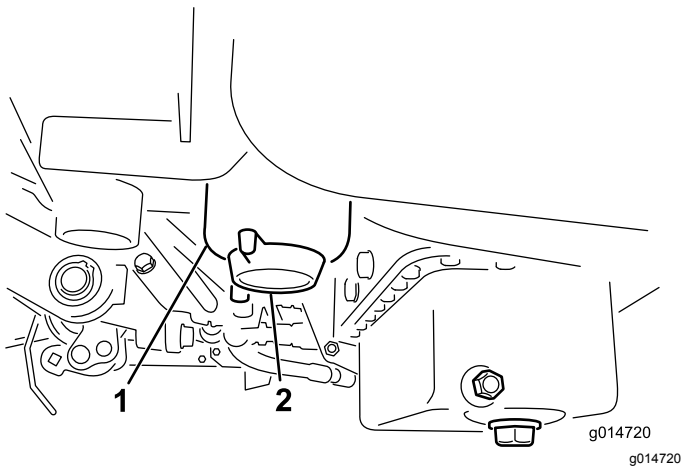

Figure 45
2. Clean the area where the filter canister mounts (Figure 45).
4. Open the filter drain plug (Figure 45).